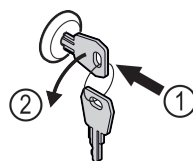

Fig. 172
- Insert the key. Fig. 172 (1)
- Turn the key anticlockwise by 90°. Fig. 172 (2)